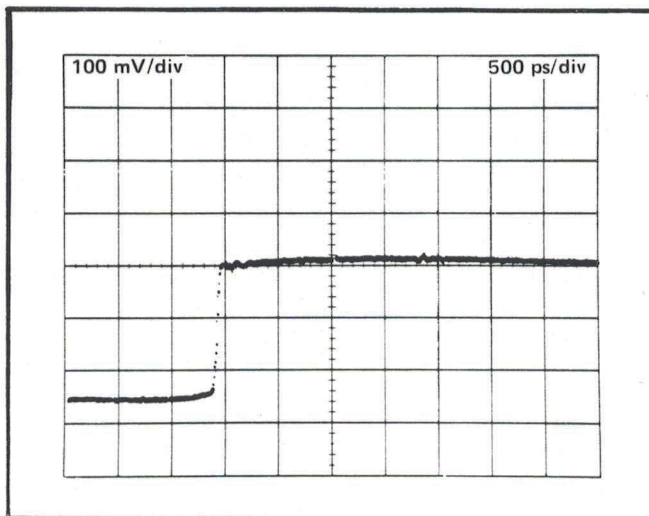

Fig. 2-2. PULSE OUTPUT leading edge (50  $\Omega$  terminated).
12. Adjust the Type 3T2 Trigger Sensitivity control for a stable triggered display of the S-52 output pulse leading edge (about 200 mV amplitude). Change the Type 3T2 Time Magnifier to X20 (500 ps/div). Use the Time Position control to position the leading edge to the left side of the display. Use the Type 3S2 DC Offset control to position the top of the pulse at the graticule centerline. See Fig. 2-2.